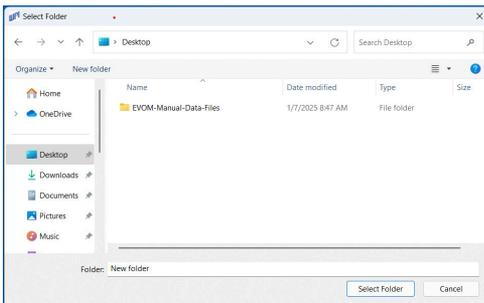

Fig. 38—Choose the folder you want to use and click **Select Folder**.
4. A window appears allowing you to navigate to the folder you want to use. Highlight the desired folder and click the **Select Folder** button (Fig. 38).